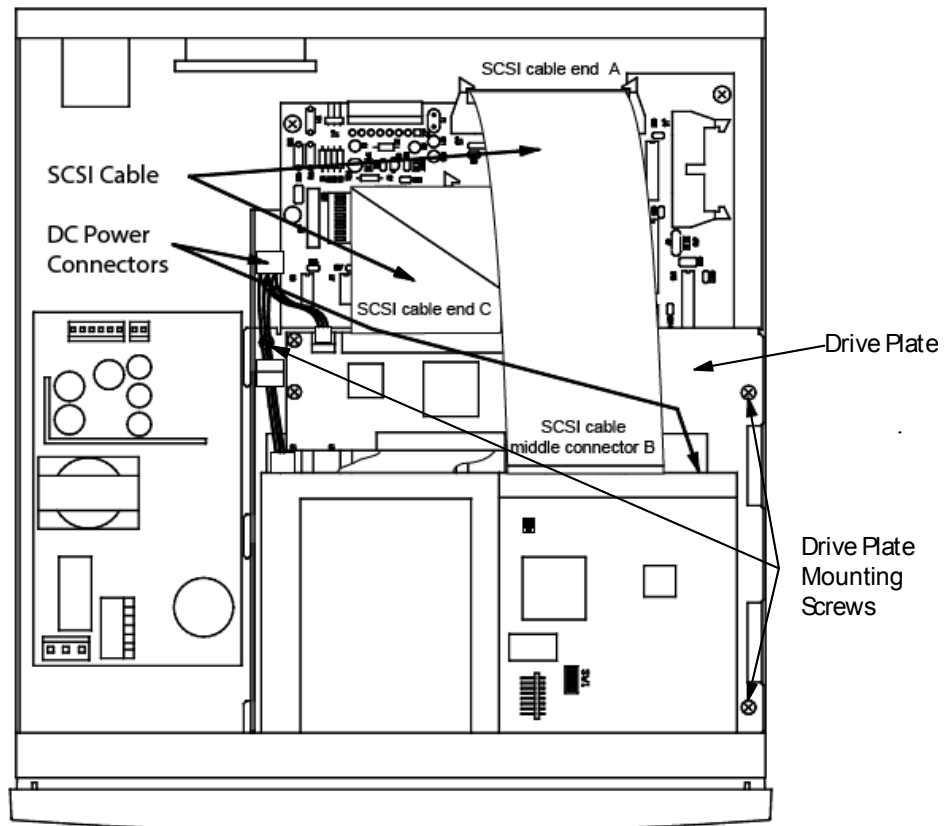

Fig. 2: 8631AF Internal View
27. Unplug the 50 pin gray flat ribbon SCSI cable from the back of MO drive (B) and the RHD (C), noting the orientation of pin 1 of the cable (red or blue stripe). (Fig. 2)
28. Unplug the DC power cable from the both DC Power Connectors. (Fig. 2)
29. Remove the three mounting screws securing the drive plate to the chassis. (Fig. 2)
38. Plug the SCSI cable end C to the existing RHD adapter (Fig. 2).